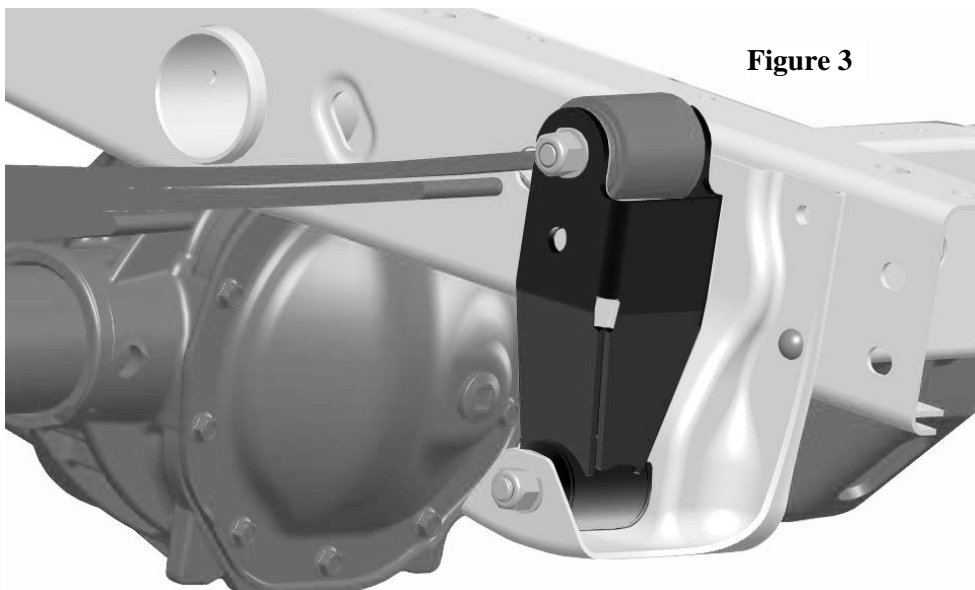

Figure 3
- 5) Install the shackle to the factory leaf hanger with the bushing end down and the closed portion of the shackle towards the rear. (Figure 3 & 4) Secure using the supplied 14mm bolt, two washers and nyloc nut per connection. Torque to 70 lb. ft.